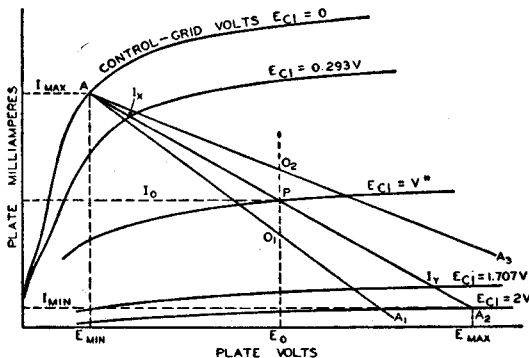

Fig. 23—Graphic calculations for class A amplifier using a pentode or beam power tube.
**Power output for a pentode or a beam power tube as a class A amplifier** can be calculated in much the same way as for triodes. The calculations can be made graphically from a special plate family of curves, as illustrated in Fig. 23